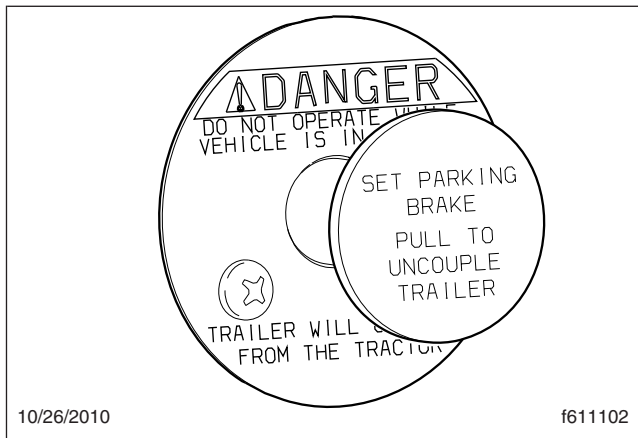

Fig. 17.10, Air-Actuated Kingpin Release Valve
An air-actuated kingpin release valve is optional with all fifth wheels. See Fig. 17.10.
2. Pull and hold the kingpin release valve (Fig. 17.10) until the kingpin lock mechanism opens and locks in place.